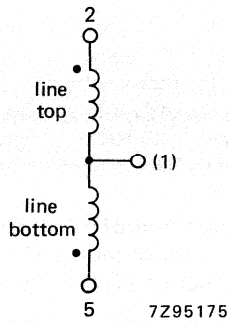

Fig. 2a Line coils.
**Line deflection coils, series connected ( Fig. 2a), terminals 2 and 5**